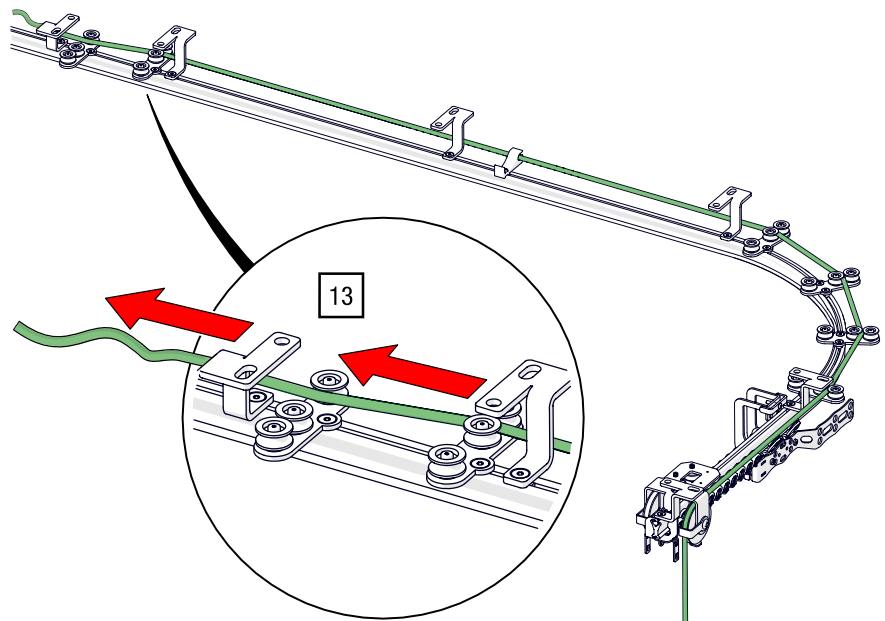

Fig. 78: Variant ④ – Top cord operation – Guide cord through track change
13. Guide the cord end through the two return pulleys onto the second track run (the following Fig. 78 shows the variant for a two-part curtain and single-track layout).